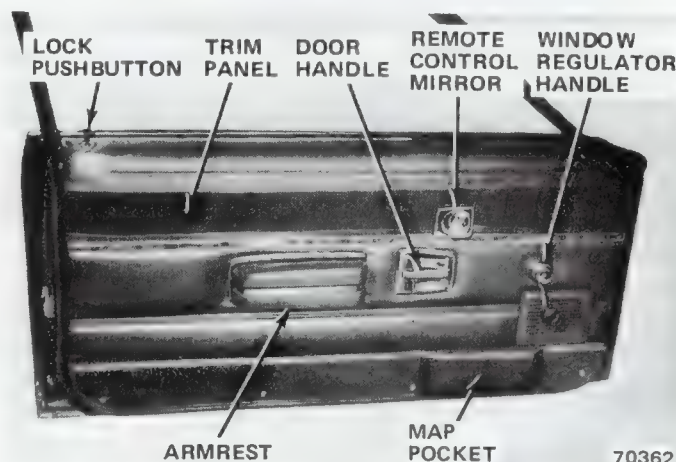

Fig. 3J-17 Door Interior Components—Concord
The trim panels (fig. 3J-17) are of hardboard composition and plastic covered with material to match each interior. Decorative mouldings and inserts, utilized with the various models, are attached to this panel. The trim panel is attached to the door inner panel by metal clips and screws.
- (1) Remove window regulator handle (fig. 3J-17) and nylon washer.
- (2) Remove remote control mirror escutcheon, if equipped.
- (3) Remove attaching screws and armrest overlay strip, if equipped.
- (4) Remove attaching screws and armrest.
- (5) Remove remote control handle bezel attaching screws.
- (6) Remove bezel by sliding toward front of car and off handle.